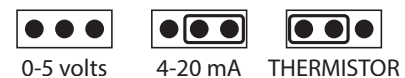

Figure 6 - AI jumpers
- **AI 1 - 9:** These jumpers allow the user to select the signal mode of the associated analog input. (See Figure 6)